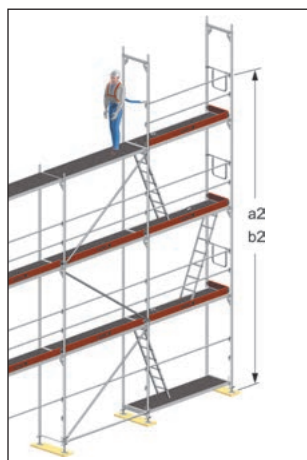

Fig. 17: Attachment at guardrail level
- a2) when attached at guardrail level: at least 6.75 m (Fig. 17) and for
- b2) when attached at guardrail level: at least 6.25 m (Fig. 17)